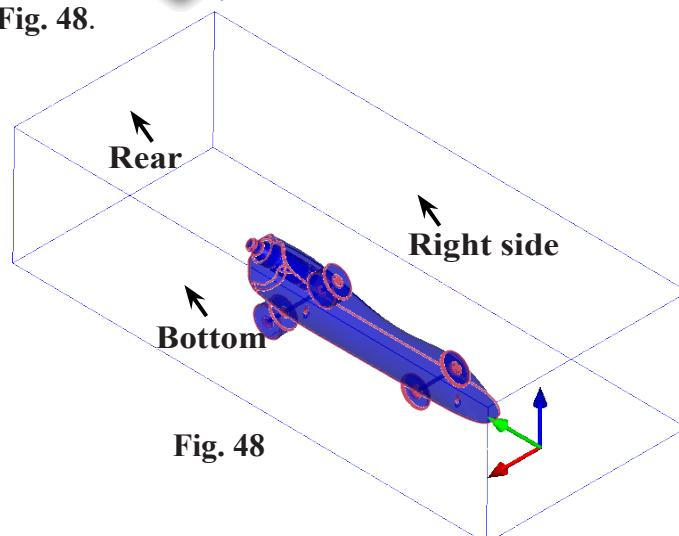

Fig. 48
4) Click the 3 remaining surfaces, Fig. 48.